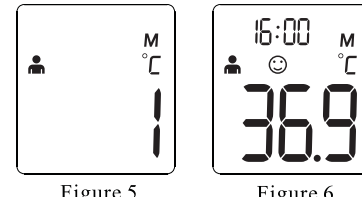

Figure 5
- The Memory Mode can be accessed either in forehead mode or object mode: When the thermometer has been turned on and followed by Figure 2/4 or finished testing, press and hold the **MODE** button for three seconds. The letter M will appear in the center right corner of the display. (See Figure 5)